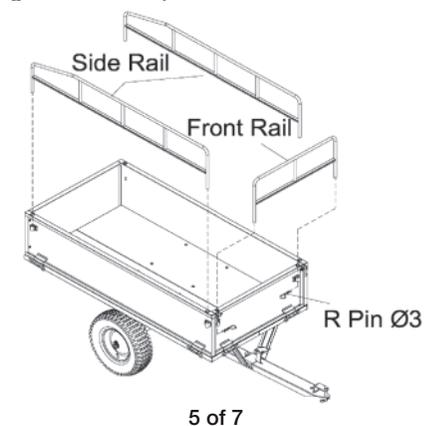

Fig. 9
**STEP 9: Attach Side Rails and Front Rail (See Fig. 9)**